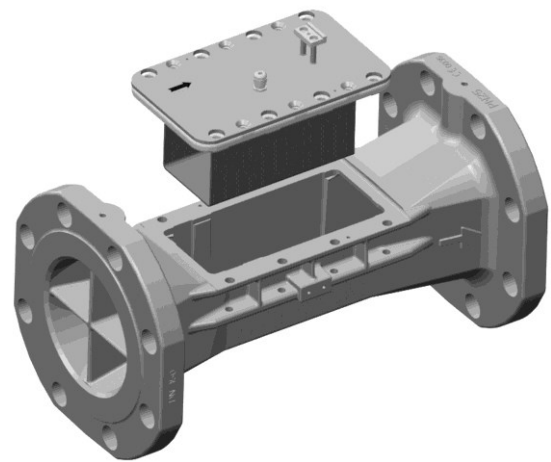

Fig. 9: Exchange of the measurement insert qp 150
- Loosen the screws "a" (see figure 9).